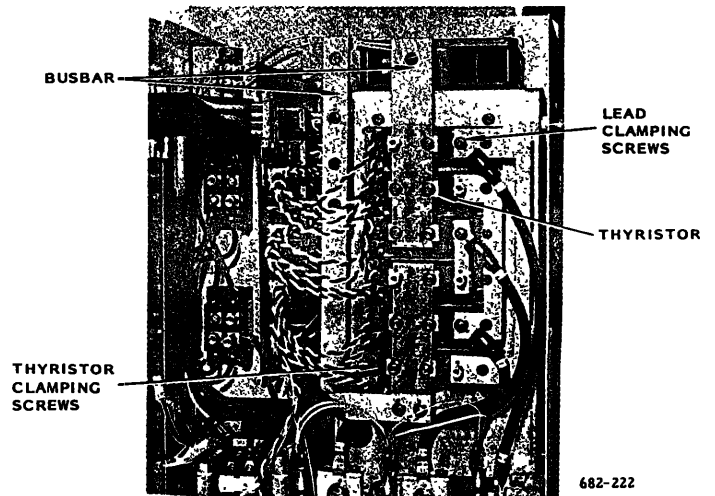

Fig. 16 With Snubber Board Removed
2. Remove bus bar mounting screws and lead clamping screws connected to thyristor. Remove bus bar and leads. (Fig. 16). In this case, mark the terminals for identification.